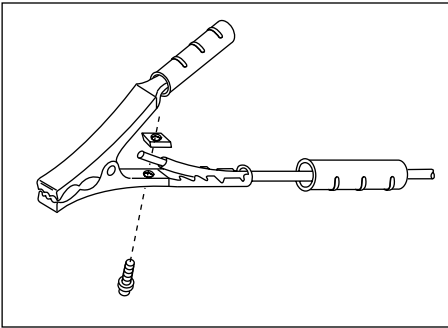

Figure 3 - Ground Clamp Assembly
2. Insert cord (labeled work on the front panel of the welder) through clamp handle and slide bare wire under the clamp block. Tighten hex bolt making sure bare wire is clamped securely (Figure 3).